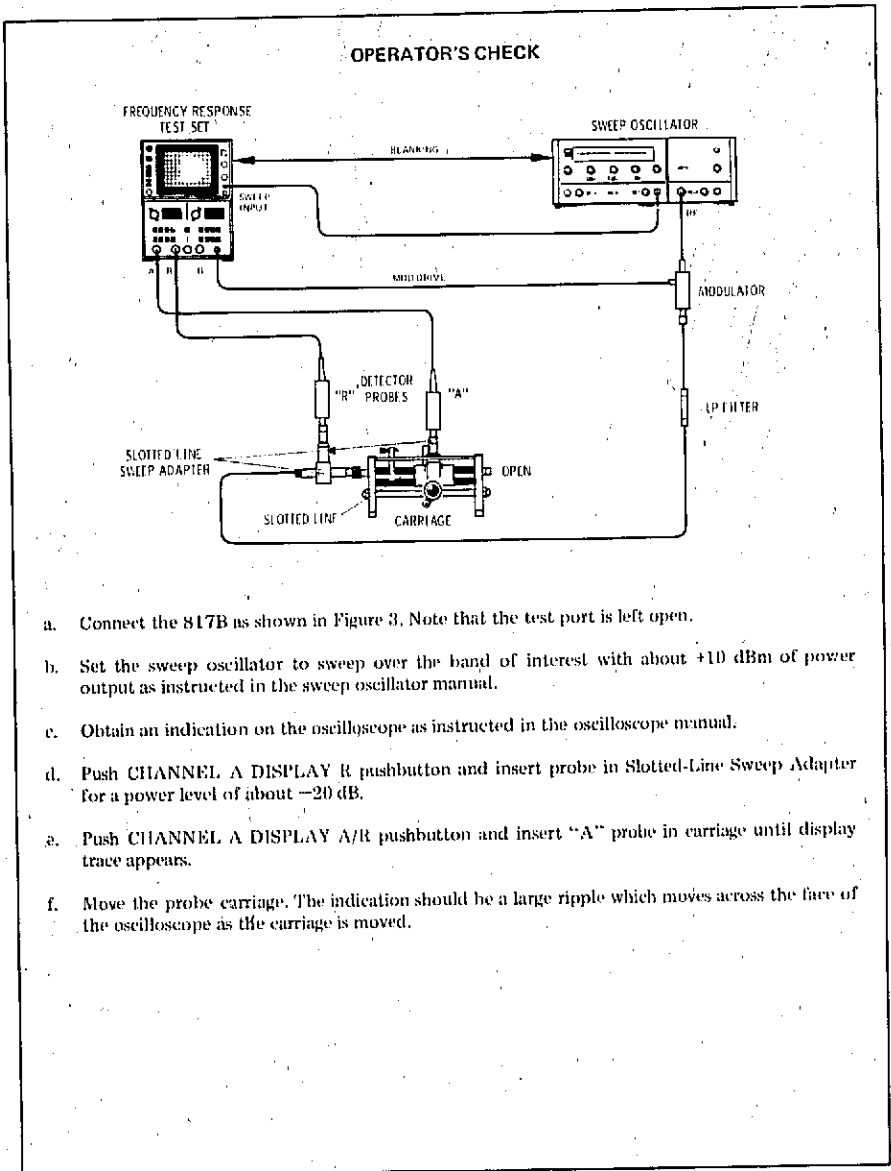

Figure 3. Operator's Check
51. Figure 3 is an operator's check procedure, allowing the operator to make a quick check of the system functions prior to use. The operator's check assumes the Swept Amplitude Analyzer is installed in an oscilloscope mainframe (Frequency Response Test Set). Therefore, if the correct indications are not obtained, trouble may be in either unit. If the Coaxial Swept Slotted-Line System is suspected, refer to the paragraph under TROUBLE SHOOTING in this manual.